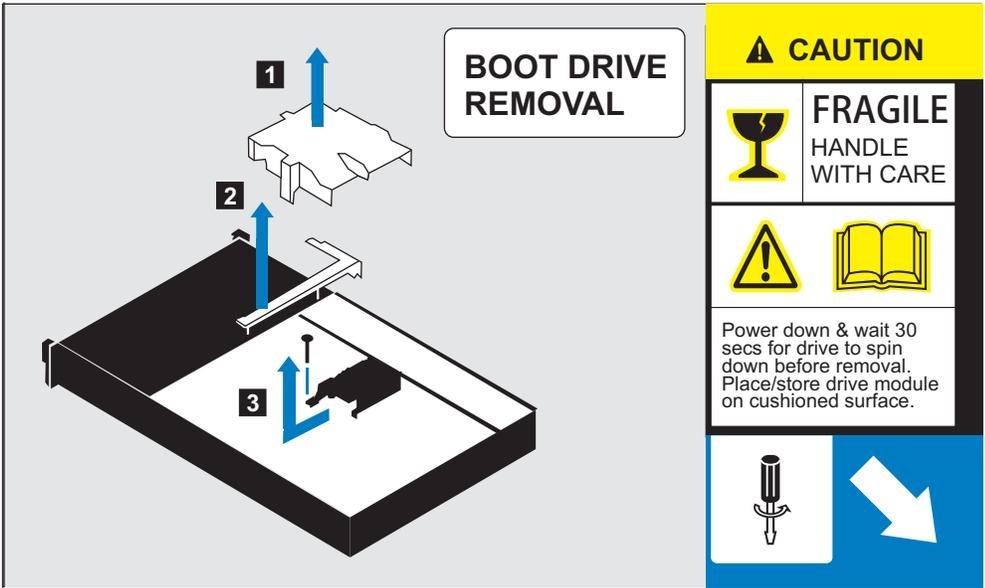

Figure 29. Boot cage label
10. Refer to Figure 29. Remove the **1** baffle and than the **2** L-shaped plastic covers.
- a. There are two boot drive cages, one in the defective chassis and one in the replacement chassis. Do this for both boot cage drives. Refer to Figure 29 on page 52. The caution label also show the three mounting points holding the boot drive cage in place. These have rubber shock absorbers around them. With a phillips head screwdriver, **2** remove the single upright screw holding the boot drive cage down. To remove the retention screw, you may need pliers to hold the post stationary while removing the screw.
17. Refer to Figure 29 on page 52. Put the **2** L-shaped and the **1** baffle plastic covers back on.